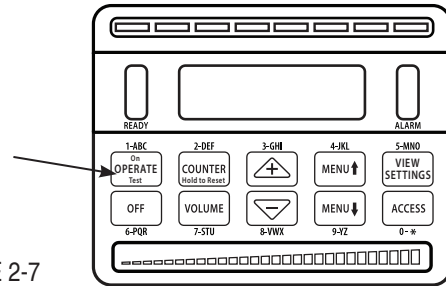

FIGURE 2-7
- Press OPERATE to switch power on. *See Figure 2-7.*